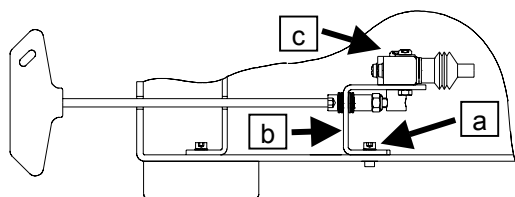

Fig. 21
With centrifuges from serial no. XXXX-02-XX, undo both screws (Fig. 21, a) of the angle bracket.
- Take the angle bracket (Fig. 21, b) with the imbalance switch out of the centrifuge.
- Unscrew the imbalance switch (Fig. 21, c) from the angle bracket.